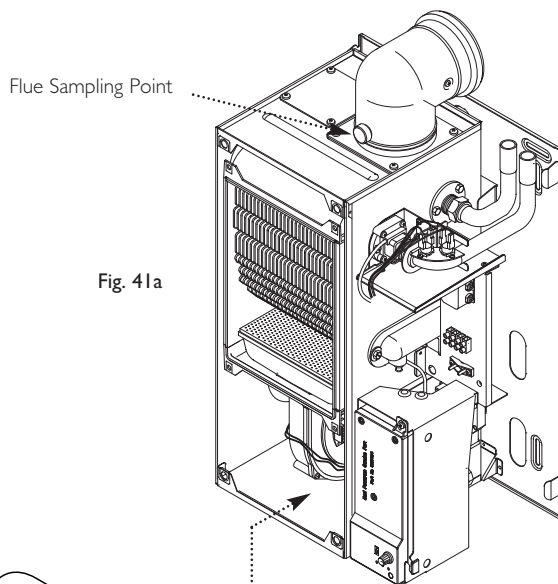

Fig. 41a
11. Check CO/CO² ratio and CO² level at flue sampling point (Fig.41a) as is quoted in Section 4.0 Technical Data.